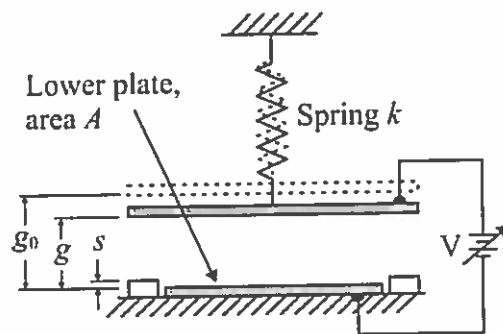

Figure 5.1
5. Figure 5.1 shows the model for an out-of-plane electrostatic actuator comprising a moveable plate on an elastic suspension and a fixed lower plate. The electrode gap at zero applied voltage is g_0 , and spacers either side of the lower plate set the minimum gap, s .